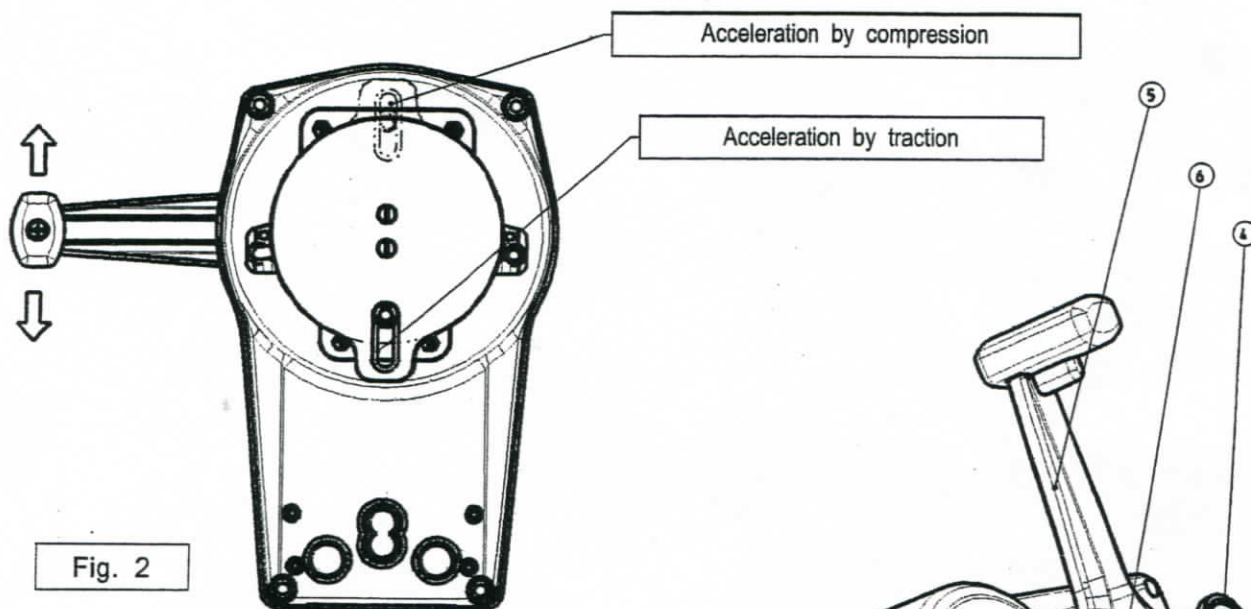

Fig. 2
1. Check in Fig. 2 whether the throttle lever position is correct, according to the type of engine.
Before proceeding with the installation, check that the gear is in neutral position (see Fig. 2).